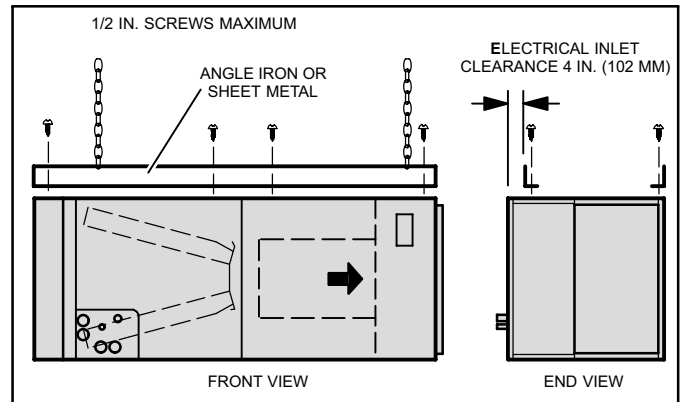

Figure 3. Suspending Horizontal Unit
2. If the unit is suspended, the entire length of the cabinet must be supported. If you use a chain or strap, use a piece of angle iron or sheet metal attached to the unit (either above or below) to support the length of the cabinet. Use securing screws no longer than 1/2" (12.7mm) to avoid damaging the coil or filter as illustrated in Figure 3. Use sheet metal screws to connect the return and supply air plenums as required.
12. If suspending the unit, it must be supported along the entire length of the cabinet. If using chain or strap, use a piece of angle iron or sheet metal attached to the unit (either above or below) so that the full length of the cabinet is supported. Use securing screws no longer than 1/2" (12.7mm) to avoid damage to coil or filter as illustrated in Figure 3. Connect return and supply air plenums as required using sheet metal screws.